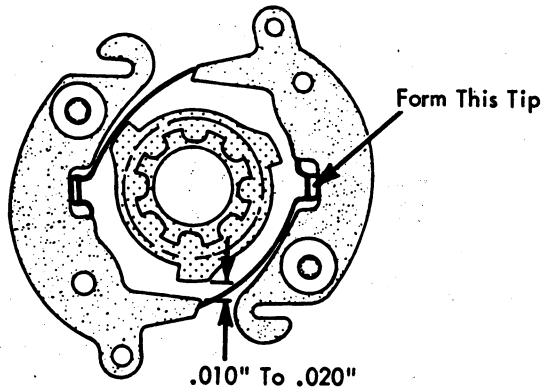

FIGURE 1. Motor Clutch Pawls
3. **Motor Clutch Pawl Stops** (Fig. 1) - Form for a clearance of .010" to .020" between the clutch pawl tip and pulley ratchet when the pulley is manually rotated.